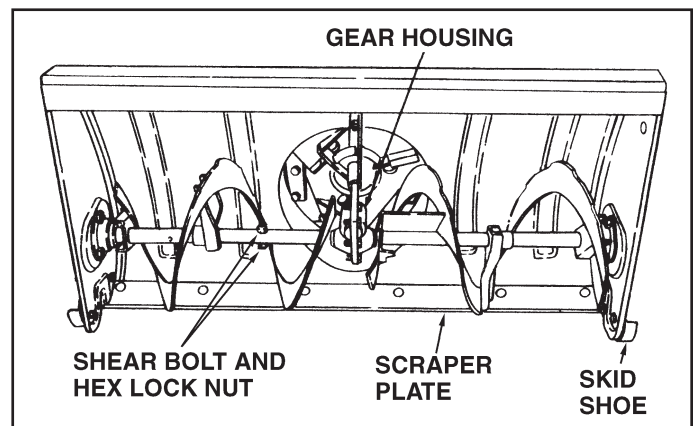

FIGURE 61
- If the augers will not turn, check to see if the shear bolts have sheared. See figure 61. Two replacement shear bolts and nylock nuts have been provided with the snow thrower. For future use order part number 42489 shear bolt and number 47810 nylock nut.